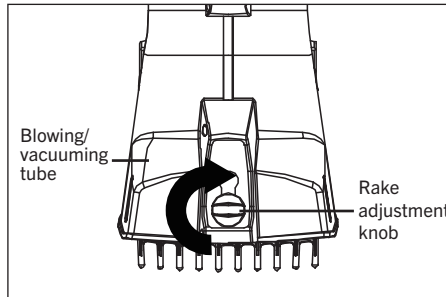

FIG. 10
2. To lock the rake, turn the rake adjustment knob to the vertical position (Fig. 10).